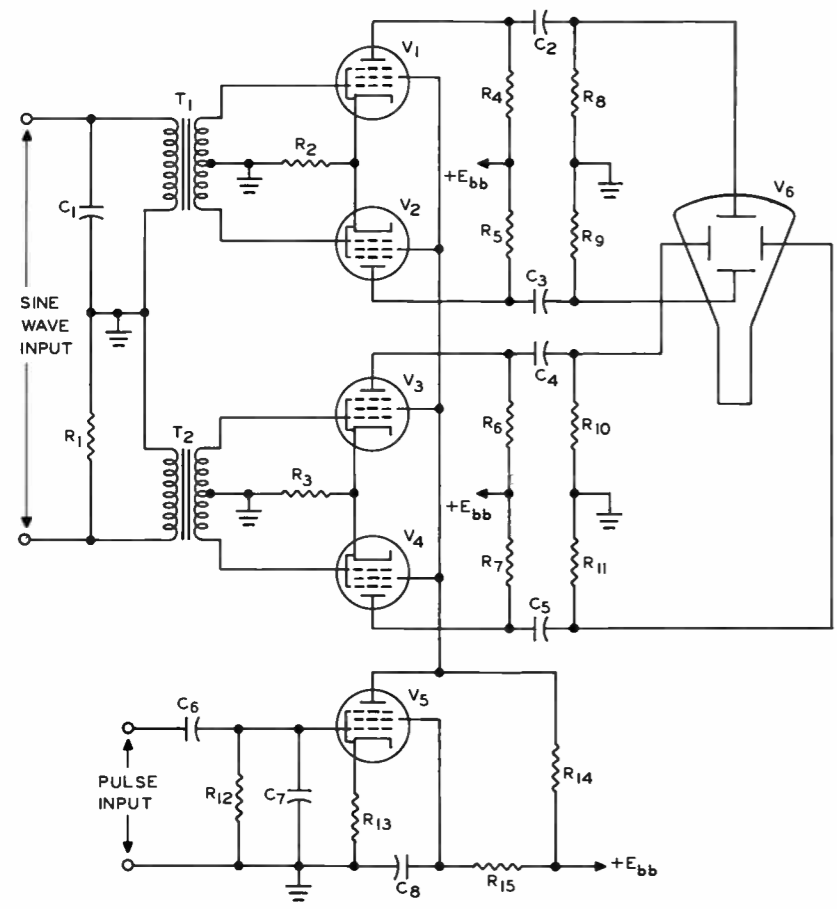

FIGURE 27
In the circuit of Figure 27 the voltage waveform applied to the series combination of C_1 and R_1 is a (A) sine wave. (B) rectangular pulse. (C) sawtooth. (D) trapezoid.